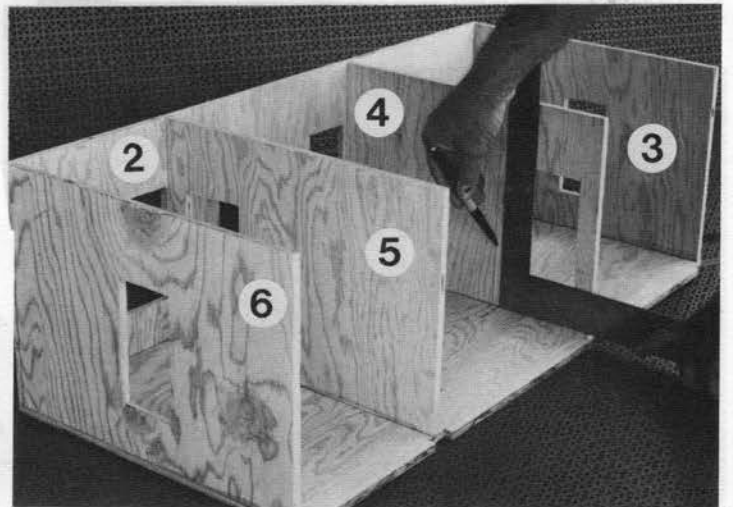

Fig. 4
STEP 3: Using the same procedures as before, install wall parts 4, 5, and 6. Then mark the vertical position for wall part 7, (FIGURE 4).